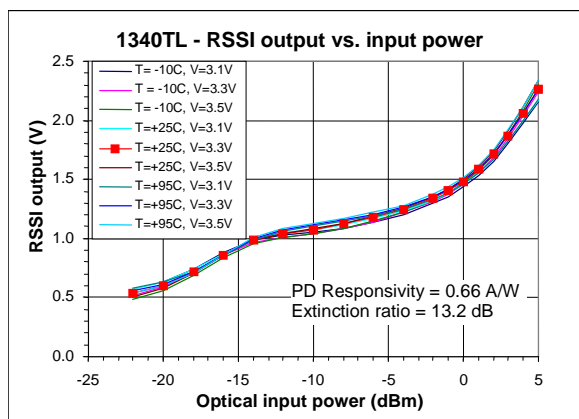

Figure 3. RSSI output vs. input power.
- ⁵ Refer to Figures 3 and 4. RSSI gain is defined as $\Delta V_{RSSI} / \Delta I_{INaverage}$. Small signal gain, as defined, depends on extinction ratio of the input signal.